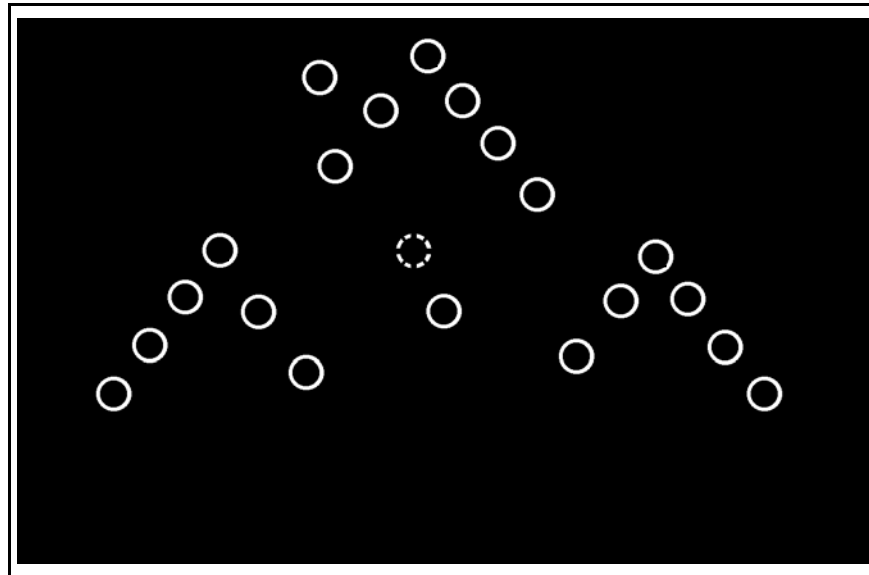

Figure 2. Dismount element line.
b. Select the dismount element line to assault an objective and designate the base fire team (Figure 2). In this formation, the dismount element can deliver maximum fire to the front but little to the flanks.